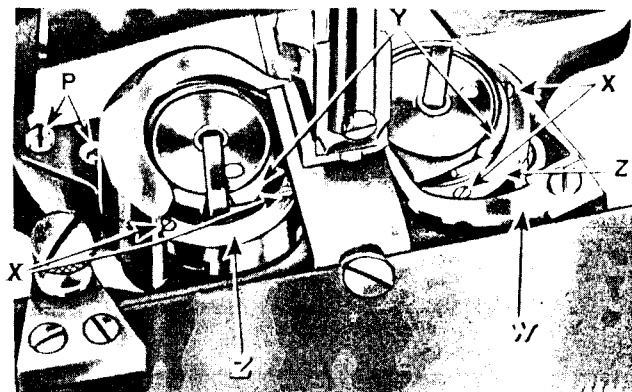

Fig. 18. Removing Bobbin Cases
Remove the throat plate, take out the two screws (P, Fig. 18) and remove the hook guard. Remove the four hook gib screws (X, Fig. 18) from the sewing hooks, lift off the hook gibs (Z), and remove the bobbin cases.